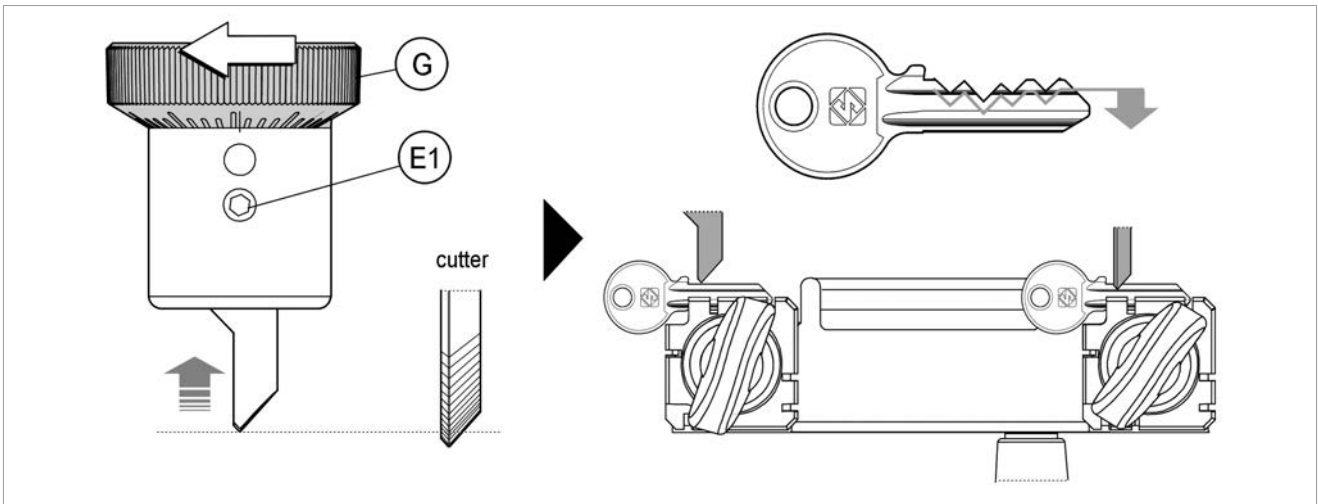

Fig. 18
- c) turn the ring nut (G) anticlockwise to return (Fig. 18).